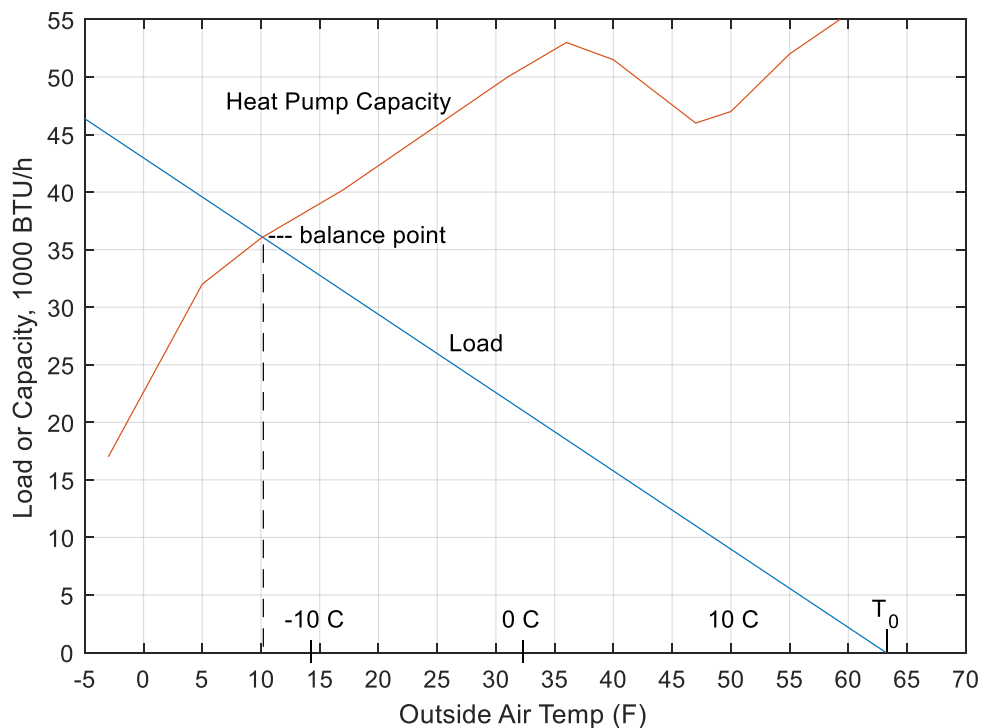

Figure 6. Approximate load line for my house, with heat pump maximum capacity. Bryant model 284ANV048 [5]. Inside temperature = 70 F/21 C.
where  $C$  is heat flow per degree F (kBTU/h/F), and  $T_0$  is the outside air temperature for which  $P_{load} = 0$ . For my house,  $C$  is approximately 0.68 kBTU/h/F and  $T_0$  is approximately 63.2 F when the thermostat is set to 70 F. Equation 2 is plotted for my house in Figure 6, which also shows the heat pump maximum capacity.
*Behavior on very cold days.* At cold temperatures, heat pump capacity starts falling off (Figure 6). When the temperature is less than about 10 F/-12.2 C, my system uses both the heat pump and auxiliary electric heater. The auxiliary heat is enabled in increments of 5 kW, up to 20 kW (For my house, the 20 kW stage is adequate for outside temperature of -30 F/-34.4 C).